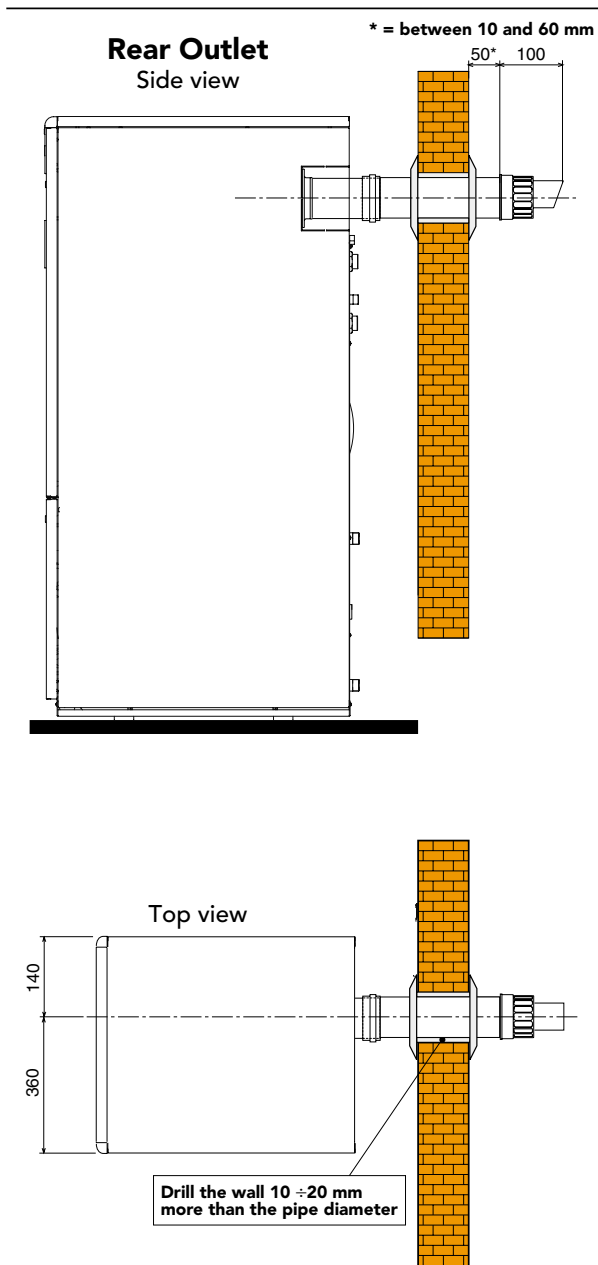

fig. 4a
4. If necessary, cut the terminal piping to size, bearing mind that the external piping must protrude from the wall by 10 to 60 mm (fig. 4a and 4b). Eliminate cutting burrs.